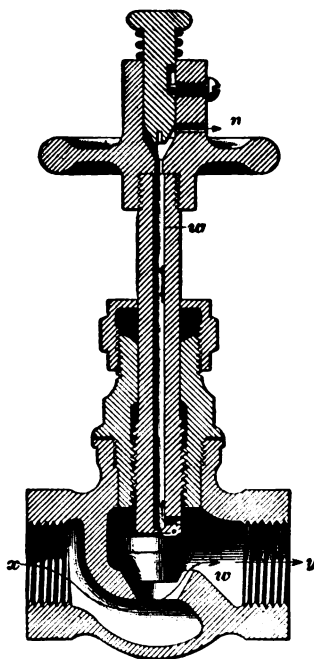

FIG. 29.
**70. Cab Valve.**—The cab valve is illustrated in Fig. 29, in which part of the valve case is broken away and the valve and valve stem sectioned to show the warning port *w*. The pipe from the main reservoir connects at *x*, while the pipe leading to the sander connects at *y*, so that the air passes from *x* to *y*, as indicated by the arrows; also, when the valve is open, there is a discharge of air through the port *n*, as indicated by the arrows, that makes a noise which warns the engineer that the sander is in operation, thus preventing his forgetting to shut it off.